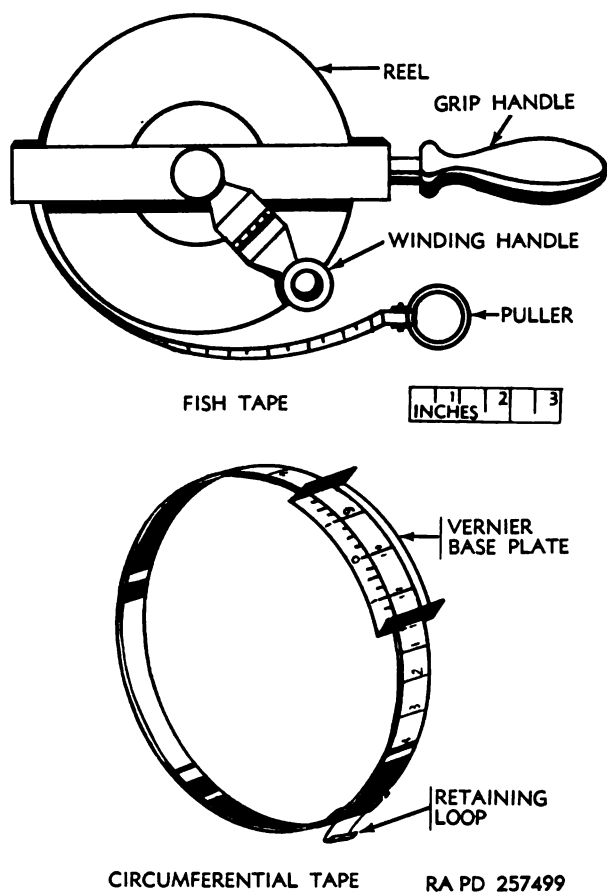

Figure 29. Precision tapes.
29. Purpose of Precision Tapes (fig. 29)
b. Circumferential Tape. A steel tape, $\frac{3}{4}$ inch wide, 14 feet long, having retaining loops at each end, is supplied with a vernier $\frac{1}{4}$ -inch graduated base plate (0 to 2 inches in each direction). Figure 29 illustrates the two tapes.
a. Fish Tape. The fish tape (fig. 29) consists of a reel, a wood grip handle, and a steel, folding, winding handle for winding the $\frac{1}{4}$ -inch wide, 100-foot long precision steel tape on the reel. A puller is attached to the end of the tape for ease of unwinding.
b. Circumferential Tape. The circumferential tape (fig. 29) is a steel tape that is 14 feet long, $\frac{3}{4}$ inch wide, and $\frac{1}{32}$ inch thick. It has a vernier $\frac{1}{4}$ -inch graduated base plate that is
- (1) To take measurement, pull on puller (fig. 29) to unwind tape. Read measurement as you would a rule. Rewind tape by rotating the folding winding handle.
- (2) To pull wiring through conduit, remove tape from reel; attach one end of wire to reel. Attach new wire to old wire at opposite end. Wind han-
- (1) The circumferential tape is used to measure circumference of tires which will be mated together as duals. When two tires are mounted on a dual wheel, the tires should be within $\frac{1}{2}$ inch of the same circumference, with the larger tire usually mounted on the outside.
- (2) To use tape, open tape enough to slip tape around circumference of tire; pull retaining loop end of tape until tape is tight around the tire.
- (3) Read measurement opposite the 0 mark on the vernier base plate (fig. 29). The tape is graduated in inches and feet and the vernier base plate is graduated in $\frac{1}{4}$ -inch increments, as discussed in paragraph 31b. The measurement is read as follows: